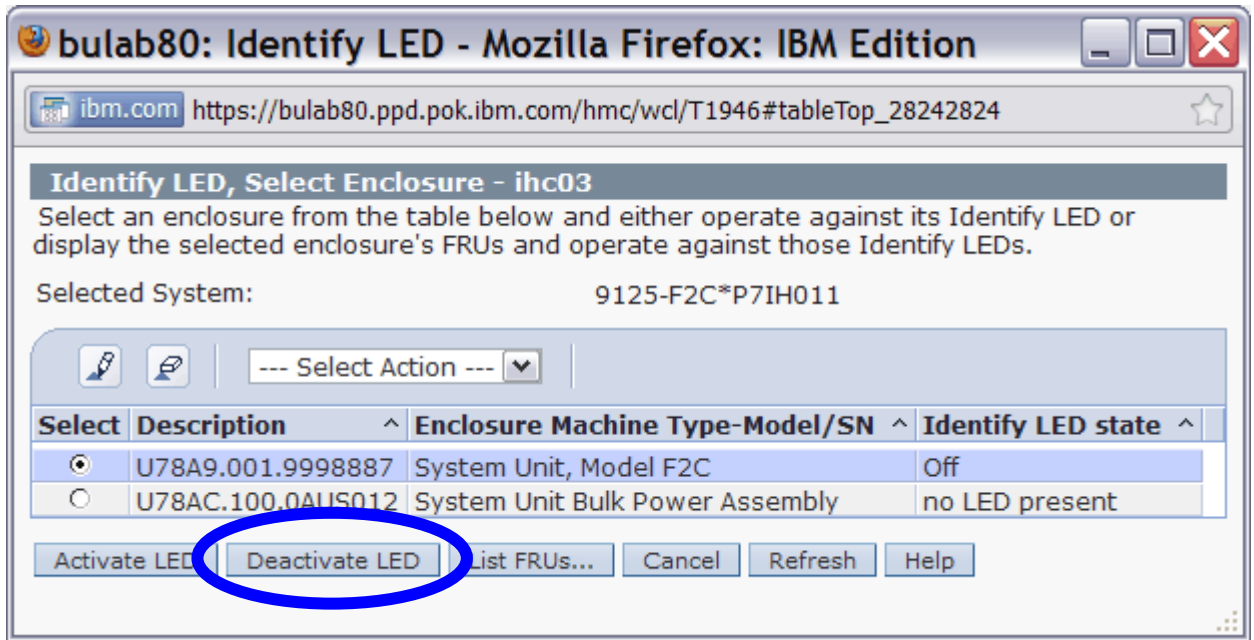

Figure 22 System Unit, Model F2C Selection
STEP 59 In the window titled **Identify LED, Select Enclosure**, *click* the **Deactivate LED** button (see **Figure 22**) and then *click* Cancel when it returns to the window titled **Identify LED, Select Enclosure**.